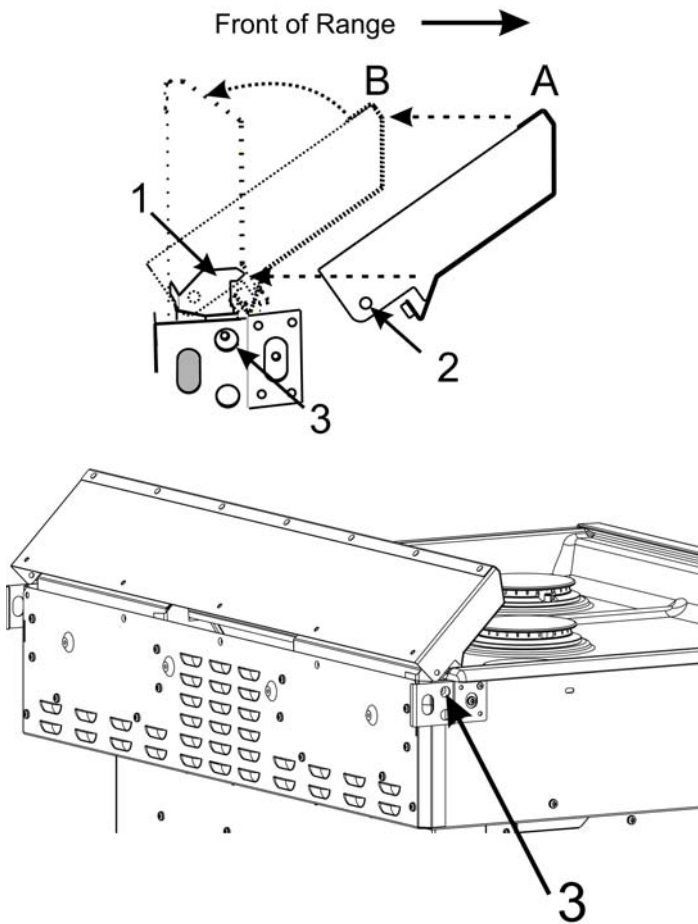

Figure 3: Low Backguard placement
8. Place the Low Backguard in position A (See Figure 3: Low Backguard placement) and then move it to position B (engaging the alignment device 1) (the appearance of the devices may not be exactly as shown). Rotate the Low Backguard to a vertical position, aligning hole 2 with the holes at 3 on both sides of the range.